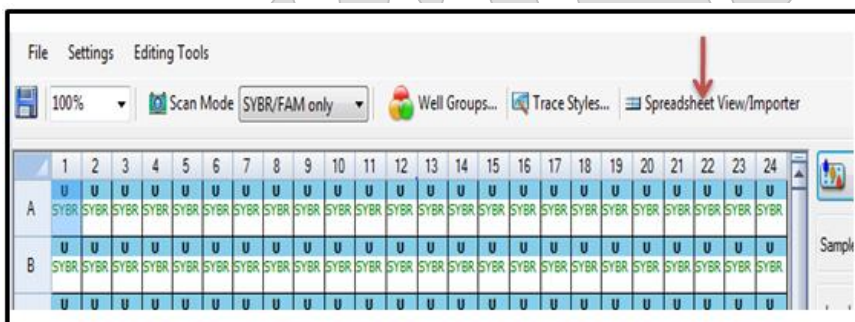

Figure 26: Spreadsheet View/Importer
5.5. In the next window, click on 'Spreadsheet View/Importer' as shown in Figure 26.